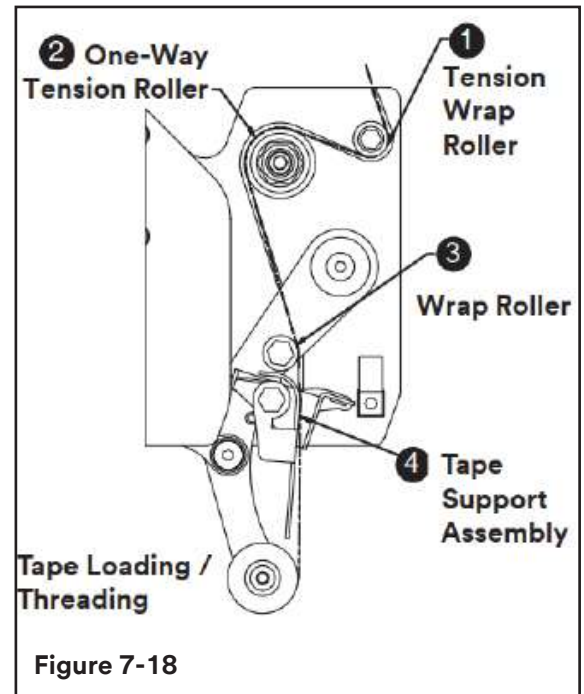

Figure 7-18
2. Use **Figure 7-18** and tape threading label. Position the tape supply roll so the adhesive side of tape is facing the front of the taping head as it is pulled from the supply roll.